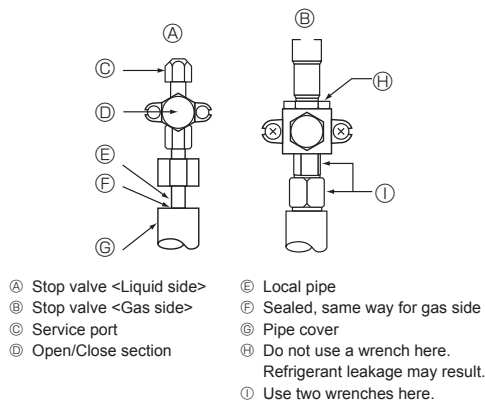

Fig. 4-5
4.4. Refrigerant pipe airtight testing method (Fig.4-5)
- If the pressure decreases in steps (2) or (3), there is a gas leak. Look for the source of the gas leak.